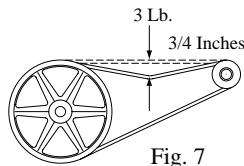

Fig. 7
- **Belt tension.** Loosen the motor mount bolts and slide the motor back until the belt is properly tensioned. A 3 lb. force should deflect the belt 3/4 inches (see Fig. 7). Retighten motor mount bolts. Do not adjust pulley to tighten belt.